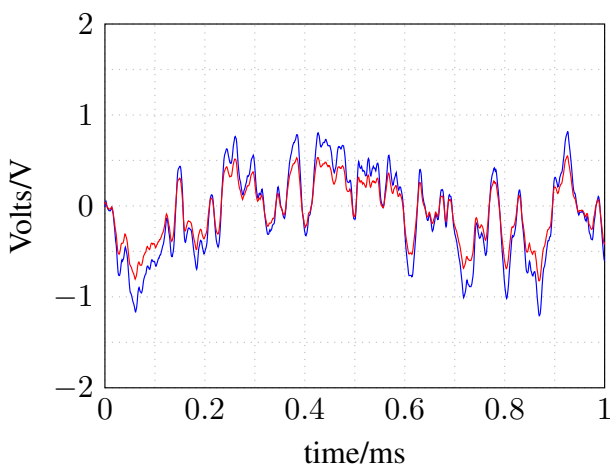

Fig. 55: Poorly tuned AGC level. The signals of the two channels do not lie on top of each other.
15. Adjust TR5 until both signals lie on top of each other (see Figs. 55 and 56).